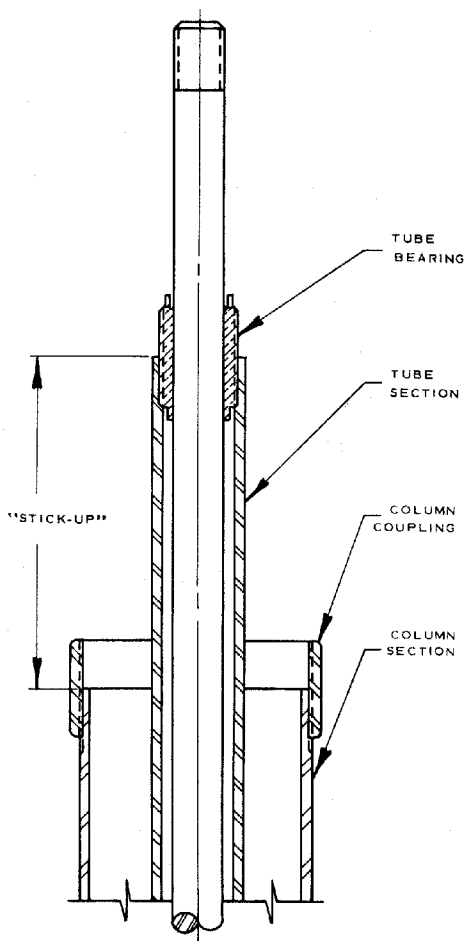

Fig. 8-3. "Stick-Up" Of Tube Section Above Column Section.
G. Lay a straight edge across the top of the last installed standard tube section (not including the bearing) and measure its "stick-up" above the top of the column section (not including the coupling). (See Fig. 8-3.) This should be approximately ten inches. Add the actual measurement to the overall length of the three-piece top tube assembly.